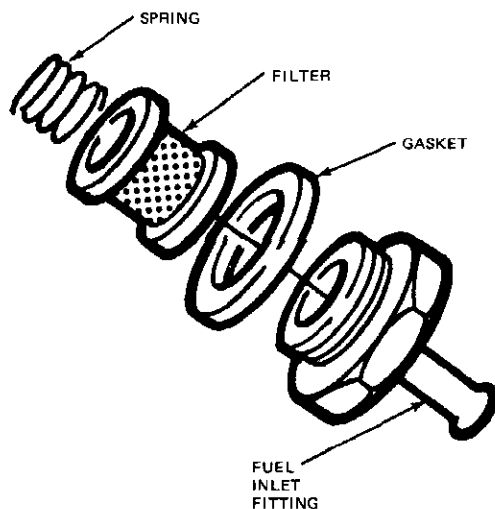

FIG. 2 Model 2700 VV Carburetor—Fuel Filter—Typical
3. Unscrew the fuel-inlet fitting and remove the fuel filter, gasket and spring (Fig. 2).